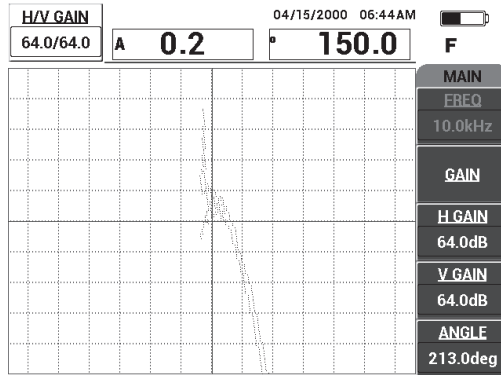

Figure 6-34 Adjusting the signal amplitude
8. Press the GAIN key (**dB**), and then adjust the signal amplitude so that the disbond signal extends to about 4 divisions away from the null position (crosshairs) [see Figure 6-34 on page 154].